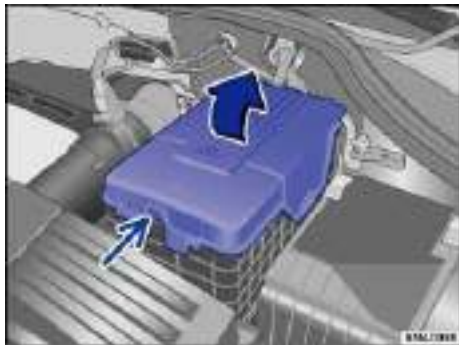

Fig. 169 In the engine compartment: Remove the cover from the vehicle battery.
- *With a hard cover* ⇒ fig. 169: Press on the tab (small arrow) and remove the cover upward.